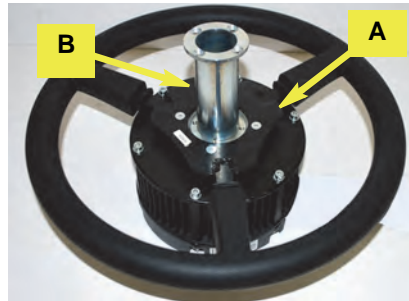

Figure 1a: Shaft adapter installation
- a. Place the VSi steering wheel **A** on a clean surface with the wheel facing up. Insert shaft adapter **B** into steering wheel **A** (Figure 1a).